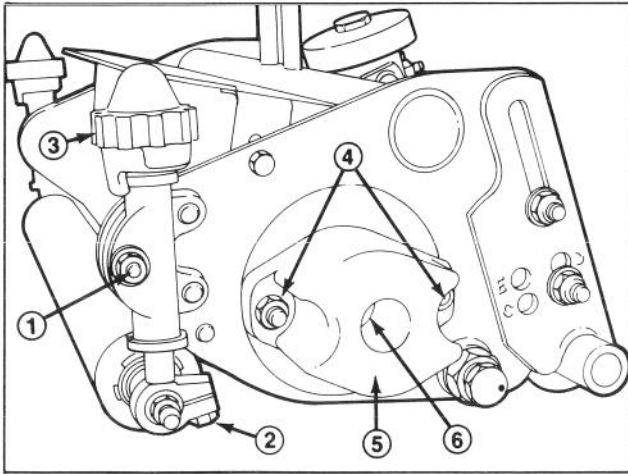

Figure 17
1. Loosen the locknuts securing the height of cut adjusting rods at both ends of the cutting unit and the roller shaft clamp bolts (Fig. 17).
2. Turn the height of cut adjustment knobs until they are disconnected from the height of cut adjusting rods (Fig. 17). The knobs are captivated on the upper washer face of height of cut clamp.
2. The reel bearing drag should be from 7 to 11 inch pounds. This can be measured with a torque wrench (Fig. 17).
1. Remove the mounting nuts from the counterbalance end cap and remove end cap from the mounting studs (Fig. 17).
3. With the wrench mounted, hold the reel and tighten the large reel bearing adjustment nut (Fig. 17). Tighten until the drag on the reel meets 7 to 11 inch-pound specification.
1. Remove counterbalance End Cap (Fig. 17).
2. Remove the large bearing adjustment nut from one end of the reel shaft (Fig. 17) and the special spline nut at the opposite end of the reel shaft.